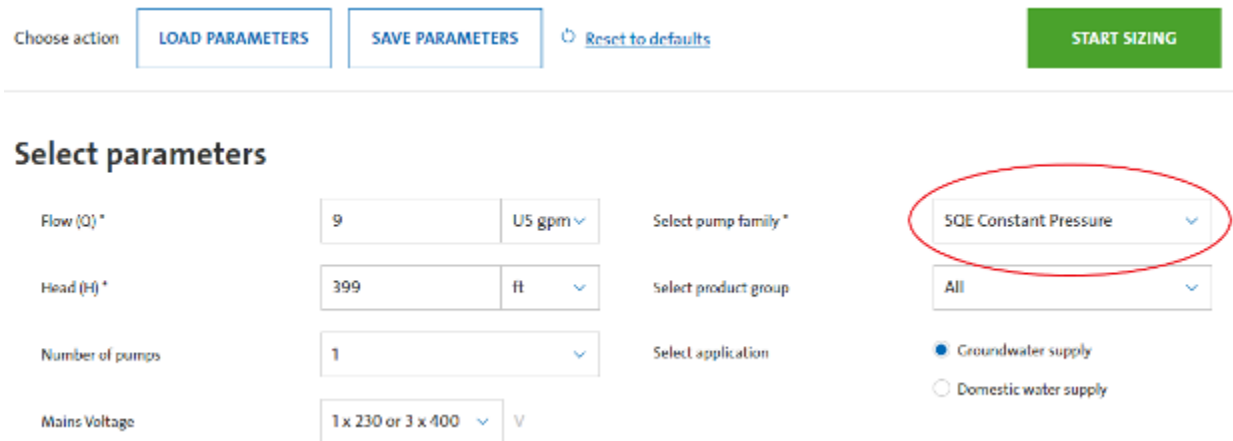

Figure 47. Constant Pressure parameter section screen shot
Sizing for a variable speed constant pressure is another one of the selection options that we could have used at the initial selection parameters input screen (Figure 47). With the increase variables to consider when selecting a constant pressure system, the sizing software is an invaluable tool.
- Figure 47. “Constant Pressure parameter section screen shot” from the Grundfos’ online sizing software. It is being used under the basis of fair dealing.